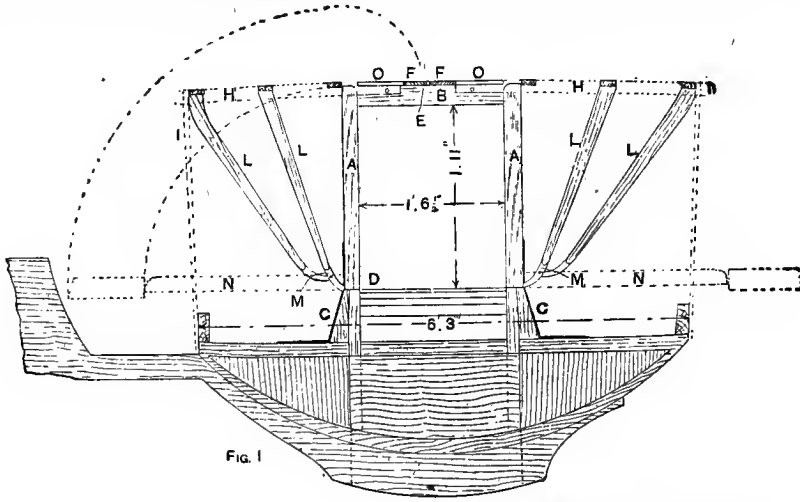

Fig. 1
2), and turn these and the flaps H and I down flat, thus holding it firm. Fasten a piece of fine black cord to H and I, and bring through the two opposite sides of framework, and fasten outside a button or bead. By this means the shutter may be pulled from side to side. Now fasten a rubber band by a slip-knot through K (Fig. 1), and put the other end of the loop over L. If the shutter is now pulled over by the right-hand button it will need only a slight pull of the left to cause it to spring across and give an instantaneous exposure. Time exposures may also be given.
Fitting the Head of a Landau.—The accompanying sketches show how the framework of a landau head is fitted up, and also a plan of the position of the hoop-sticks when fixed in place. First get out the top pillars A, A (Fig. 1), which are 2 in. thick by the width of the door pillar at the bottom or hinge end, tapering to 2½ in. wide at the top, and the cant rails B, 2½ in. deep, straight on the inside, to come flush with the pillars on the outside, sweeping out to the side sweep of the body; then cut the top part of the body standing pillar to a taper, to take the hinge C, so that it comes flush with the back of the pillar A, being careful to see that the face of the pillar A is kept level with the inner face of the door pillar at D, so that the glass frames will